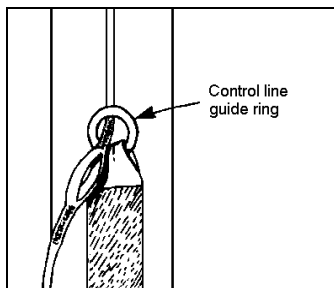

Figure 3.
STEP 4.) Route the canopy control lines through to the control line guide rings. (See Figure 3.)